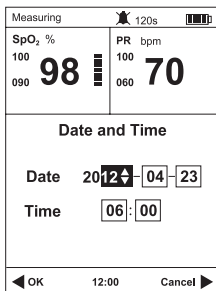

Fig.3.2
- 2) Press the Navigation button to select "Date and Time" item, and then press the OK button to enter the time setup screen, refer to Fig.3.2. Press the Navigation button adjust the value, and then press the OK button to confirm the value. The date is displayed as the order of Year-Month-Day and Time of Hour-Minute (time show: 24-hour).